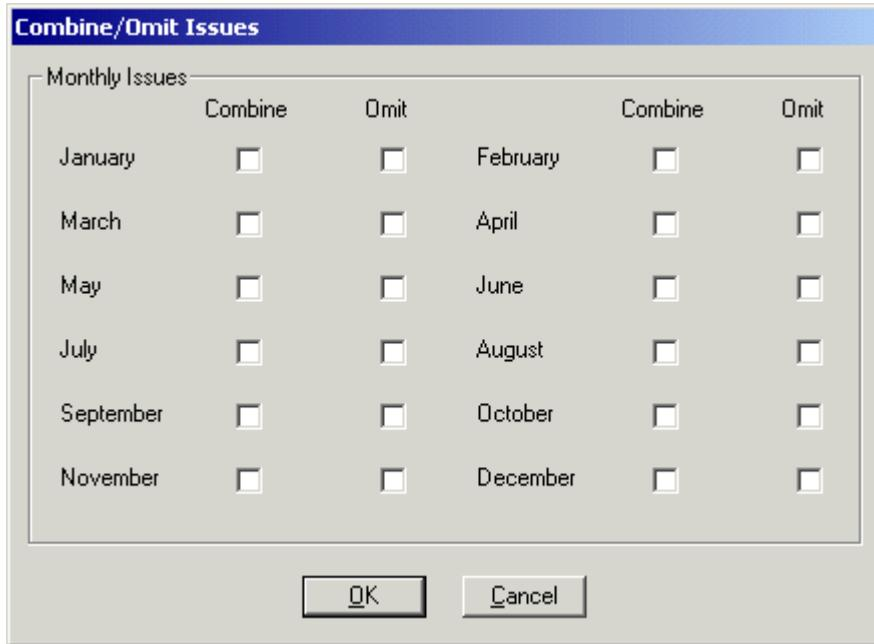

Figure 8-7. The Combine/Omit Issues dialog box
- Click the **Combine/Omit** button from the **Start Prediction** dialog box to display the **Combine/Omit Issues** dialog box (see Figure 8-7).